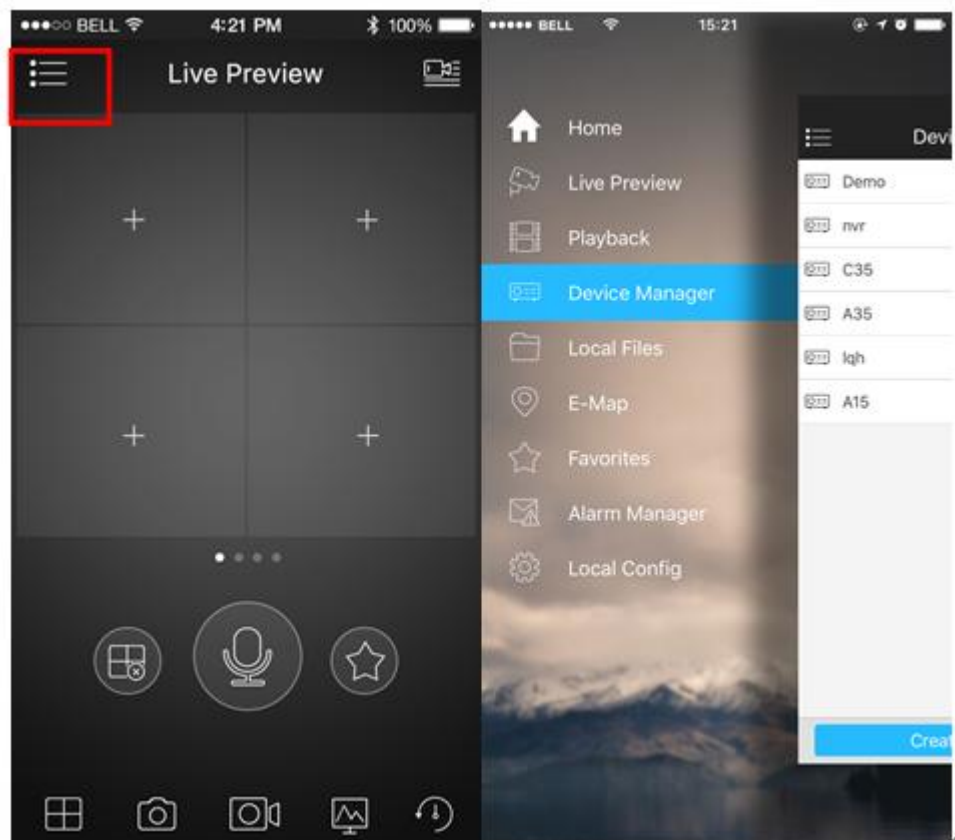

Figure 6-2
- 1) Tap  and then tap Device Manager. See Figure 6-2.